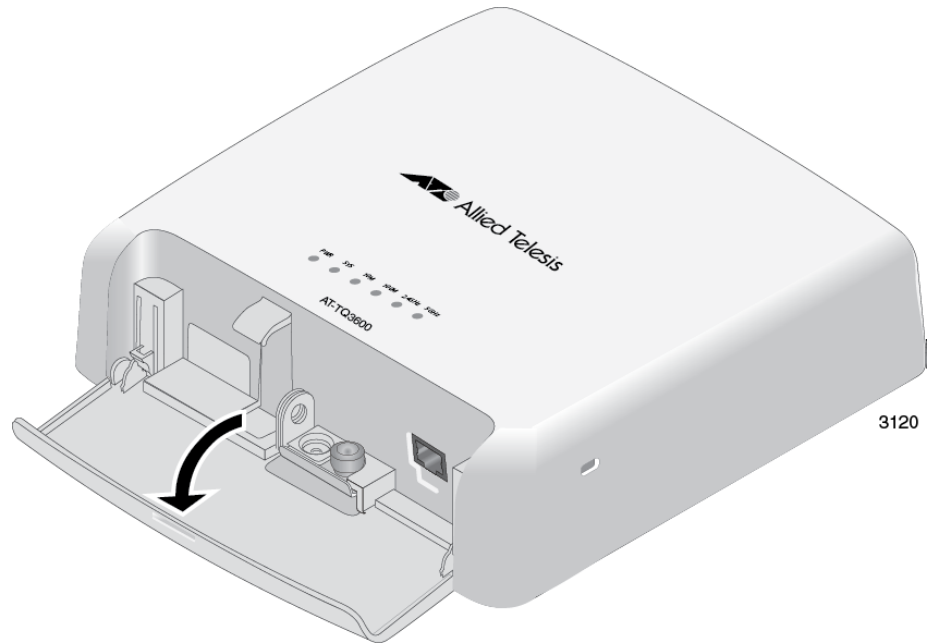

Figure 13. Opening Front Panel
2. Open the front panel. Refer to Figure 13.